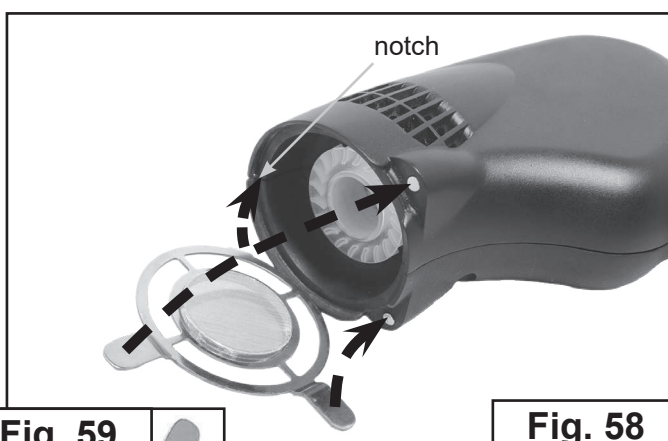

Fig. 58
2. Insert the lug of the Sampler into the notch of the Gauze Sampler Pump. Then turn it to the suction port of the Pump (Fig. 58) and fix the Gauze Sampler (Fig. 60).